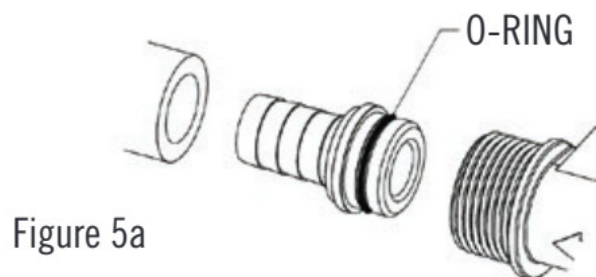

Figure 5a
5. Tighten each hose clamp to secure suction and discharge hoses to all barb fittings to prevent fluid leaks (Figure 5a – 5c). Hook Nozzle Bracket to IBC Cage at preferred location.
5. Install Discharge Hose with nozzle to discharge side of pump with included barb fittings and hose clamp (see Figure 5a-b, page 5).